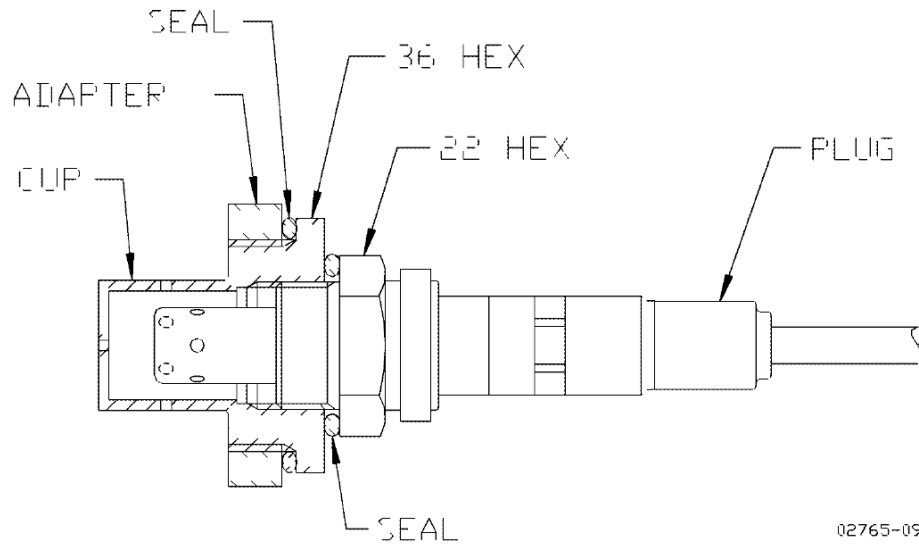

Figure 2-7. UEGO Sensor
6. Always use the special protection cover and welding ring for mounting the sensor (see Figure 2-7).